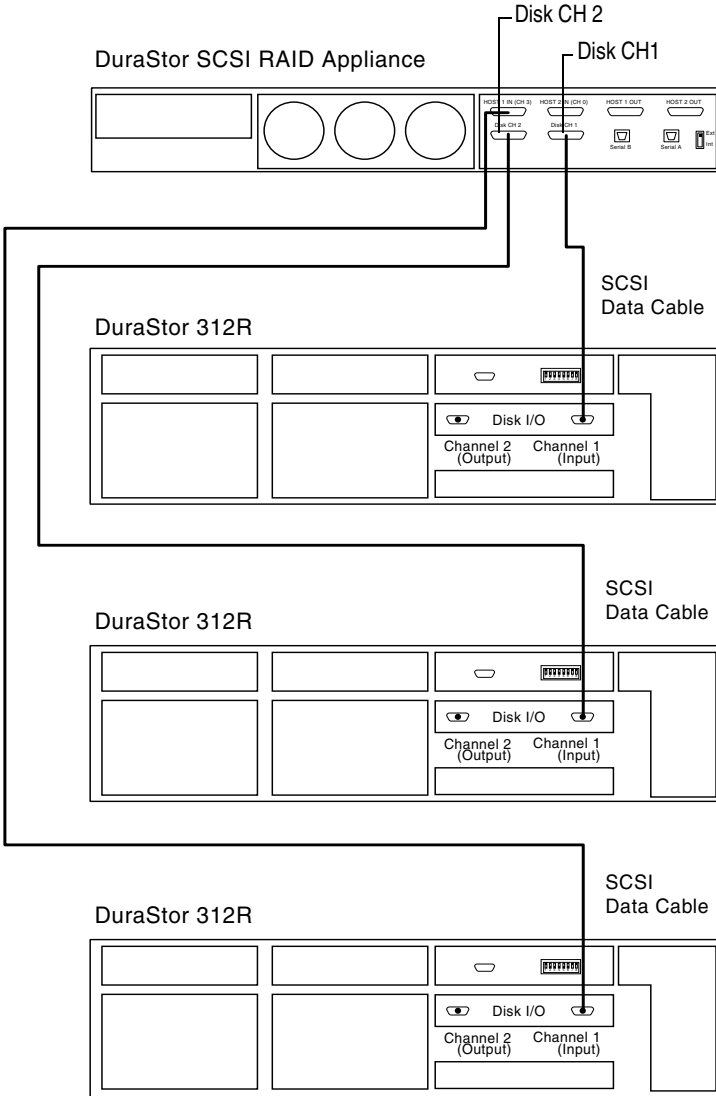

Figure 3-15 Single-Bus 25–36-Drive Cabling Diagram
- 2 Connect the DuraStor SCSI RAID appliance to the DuraStor 312R using SCSI data cables, as shown in Figure 3-15.